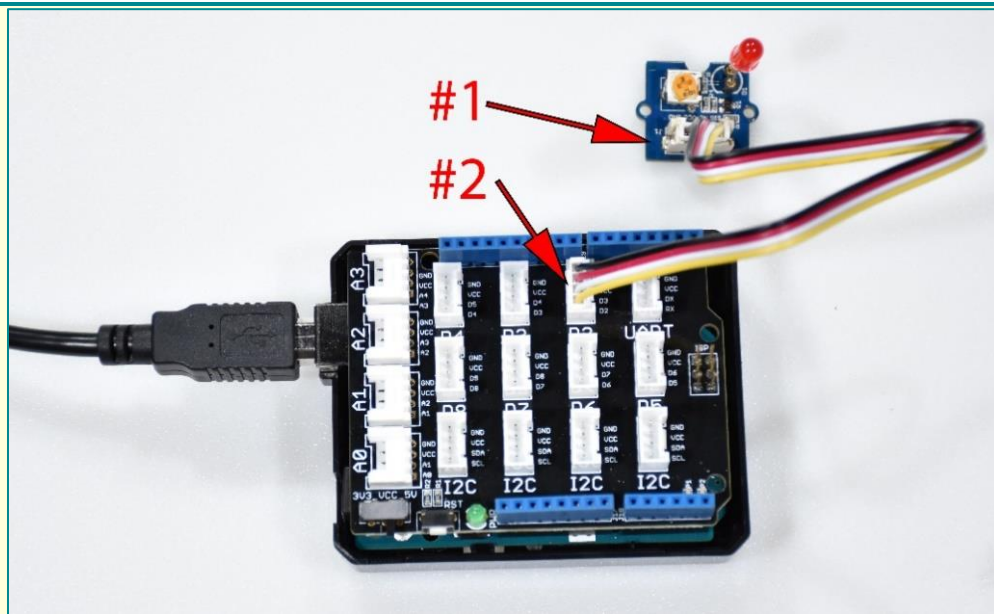

Figure 3-8. Connecting the LED module to the Arduino.
3. Connect one end of a Grove cable (the cable is polarized. i.e. it will go into the socket in only one way) to the Grove LED Module, as shown by #1 in Figure 3-8.
4. Connect the other end of the Grove cable to the socket labeled D2 (which is the second digital pin) on the Grove Base Shield, as shown by #2 in Figure 3-8.
6. Open the Arduino software, delete everything on the default sketch, copy the code provided on the next page (the code is located below Figure 3-8), and save the sketch as *blink.ino*.